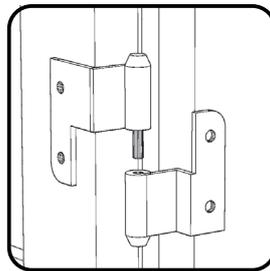

Figure 4
Attach Doors (N) and (O) to unit by sliding door lift hinges into side panel lift hinges. (See Figure 4)